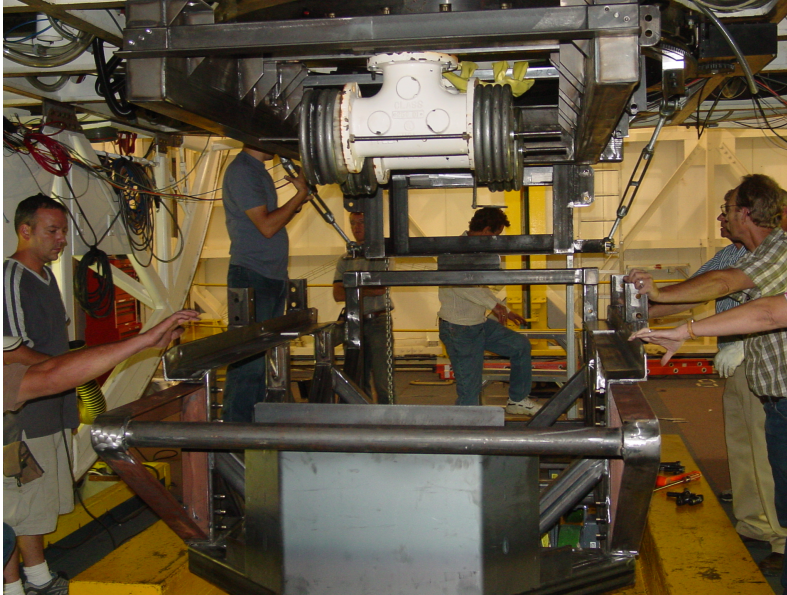

Figure 11
24. Lower the cart assembly. See figure 11. Wheel to temporary storage location.